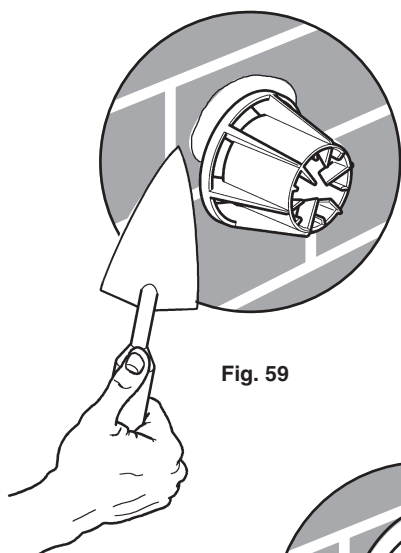

Fig. 59
9. Make good between the wall and the air duct inside and outside the building if the internal fitting kit has not been used (Fig. 59).